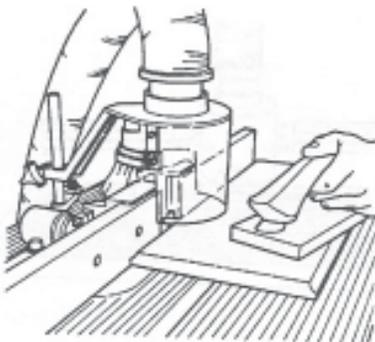

Figure D-61
- Position the workpiece on the proper side of the worktable, as shown in Figure D-61.